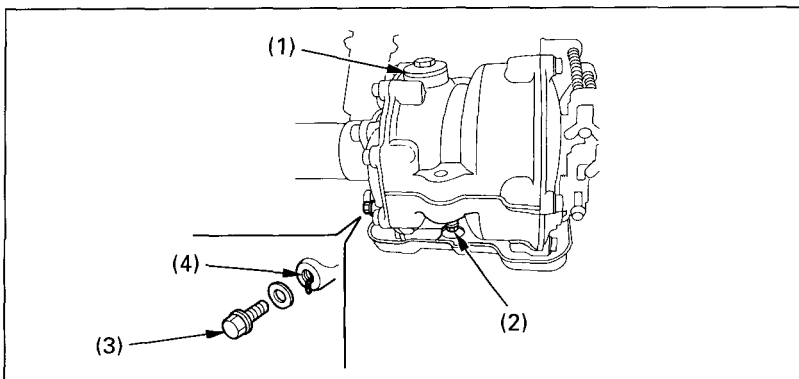

Fig. 4-13
1. To drain the oil, first place an oil drain pan under the oil drain plug (Fig. 4-13).